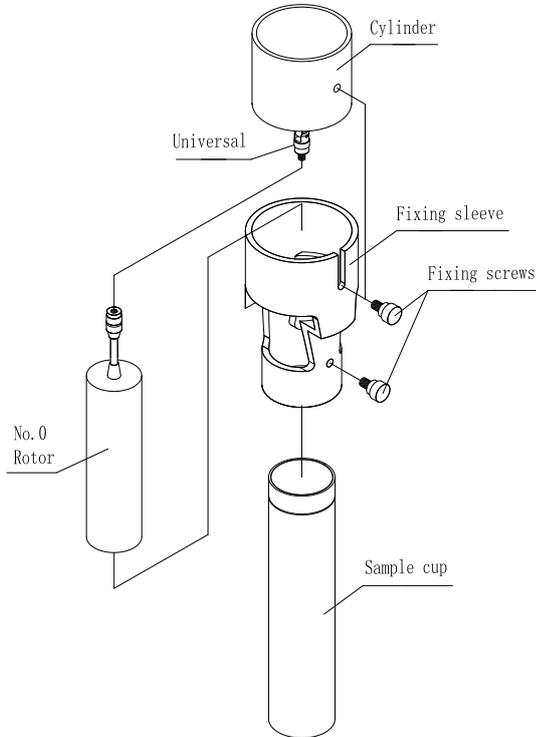

Fig. 5
(2) Install rotor #0 as per Fig. 5, firstly mount rotor #0 onto the rotor connecting screw (universal joint) by rotating it **clockwise (counter-thread)**.
(3) Attach the fixing sleeve to the cylinder under the instrument from bottom to up (avoid touching rotor 0#), and fix the sleeve with fixing screws.
(4) Transfer 20mL of the tested liquid into the sample cup.
(5) Insert the sample cup with liquid from bottom to the top of the fixing sleeve, and then